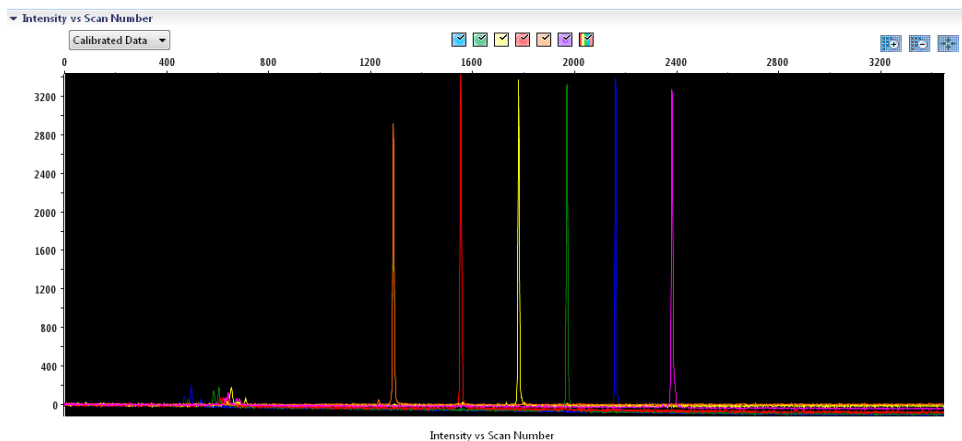

Figure 2. Electropherogram of spectral calibration of the matrix standard BT6 on an Applied Biosystems 3500 Genetic Analyzer.
- Check the matrix samples for a flat baseline. As shown in Figure 2, there should be 6 peaks with peak heights of about 1000–6000 RFU for each matrix sample. (**Note:** The optimal range is 3000–5000 RFU.)